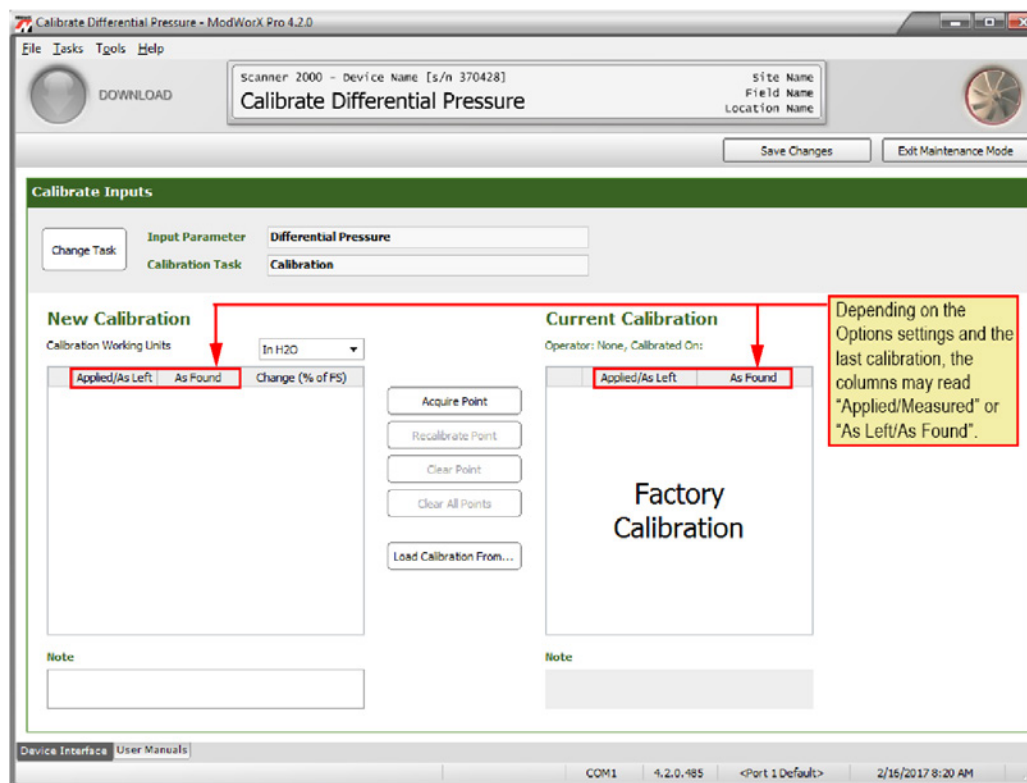

Figure 6.6
1. Observe the calibration settings at the bottom of the screen (Figure 6.6). To calibrate the sensor, click on the blue **Calibrate** hyperlink in the Sensor Calibration section and follow the screen prompts.
2. Observe the verification settings at the bottom of the screen (Figure 6.6). To verify the sensor's calibration, click on the blue **Verify** hyperlink and follow the screen prompts.